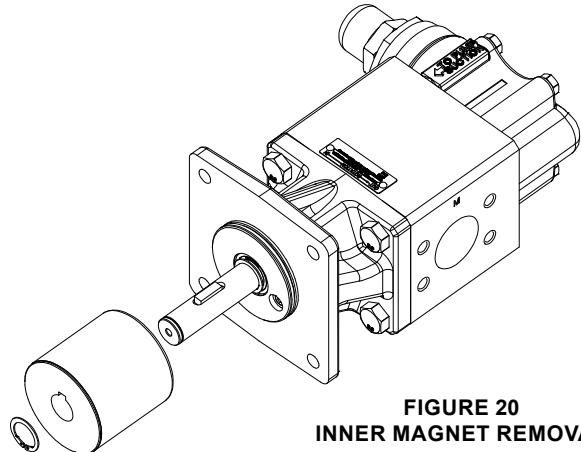

FIGURE 20
3. Remove the external snap ring (closest to end of shaft) and slide off the inner magnet assembly (See **Figure 20**). Use caution, as this is a very strong magnet.